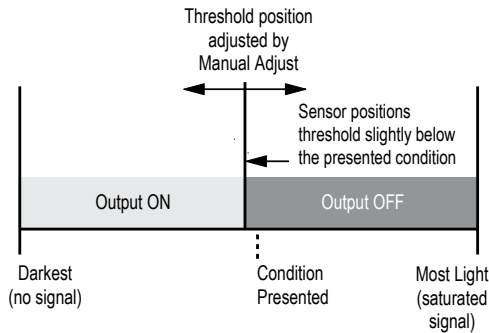

Figure 9. Single-Point Light SET (Light Operate shown)
- Sets a threshold slightly below the taught condition (see Figure 9. Single-Point Light SET \(Light Operate shown\) on page 9)